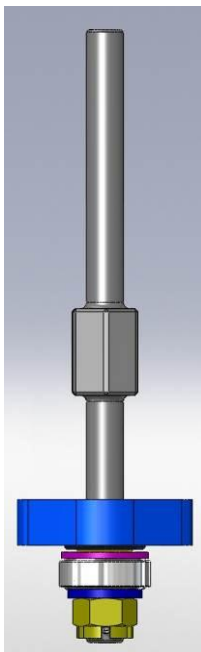

Figure 107: D0902454 Stage 1-2 Blade Puller Assembly Top Parts to slide from below through D0902191 Pre-Load Bracket Saddle
- Repeat this step for the (2) other D0902454 Stage 1-2 Blade Puller Assembly.
1.66. Slide D0902454 Stage 1-2 Blade Puller Assembly Top Parts (see Figure 107) through D0902488 Pre-Load Bracket & D0902191 Pre-Load Bracket Saddle